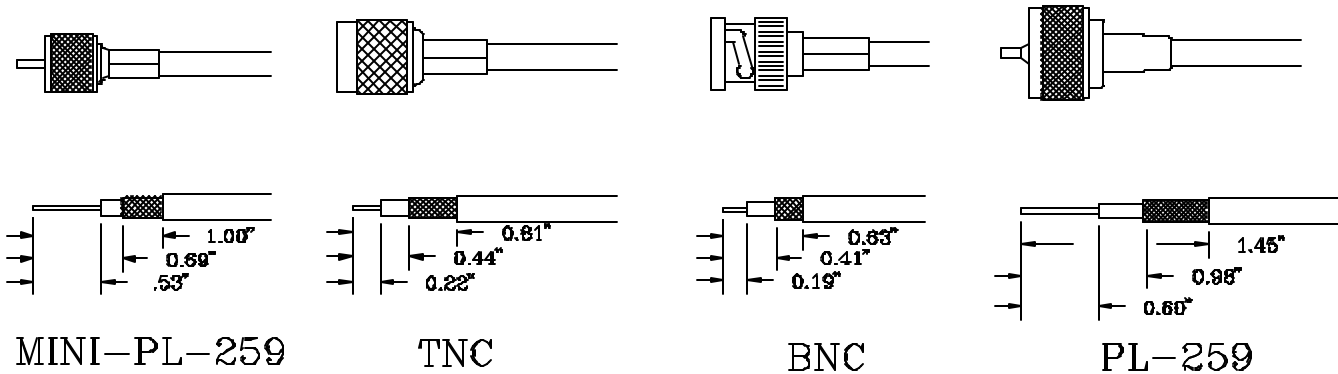

Figure 5 - Cable Stripping Dimensions
9. **Install Connectors:** Refer to Figure 5 for cable stripping dimensions (Drawing is not to scale).